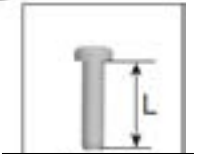

Figure 14.3.05:
4. Install the new STEPPER MOTOR pressure regulator assembly, as shown in **Figure 14.3.03** and **Figure 14.3.04**. Use the supplied screws (F), M4 x 0.7 threaded, length of thread $L = (16 \text{ mm} + 0 - 0.5 \text{ mm})$, steel material, resistance class 8.8 (see **Figure 14.3.05**).